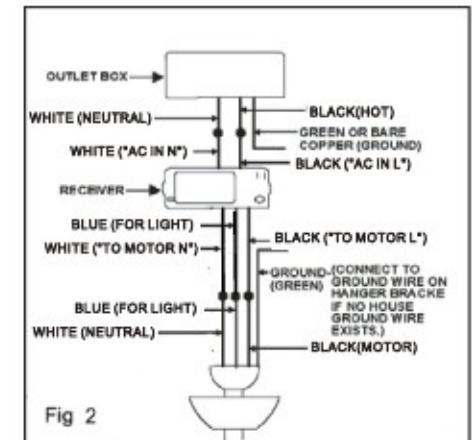

Fig. 2
Step 2. Motor to Receiver Electrical Connections: Connect the WHITE wire from the fan to the WHITE wire marked "TO MOTOR N" from the Receiver. Connect the BLACK wire from the fan to the BLACK wire marked "TO MOTOR L" from the Receiver. Connect the BLUE wire from the fan to the BLUE wire marked "For Light" from the Receiver. (Fig. 2)
Step 3. Receiver to House Supply Wires Electrical Connections: Connect the WHITE wire (Neutral) from the outlet box to the WHITE wire marked "AC in N" from the receiver. Connect the BLACK wire (Hot) from the outlet box to the BLACK wire marked "AC in L" from the receiver. Secure all wire connections with the plastic wire nuts provided. (Fig. 2)